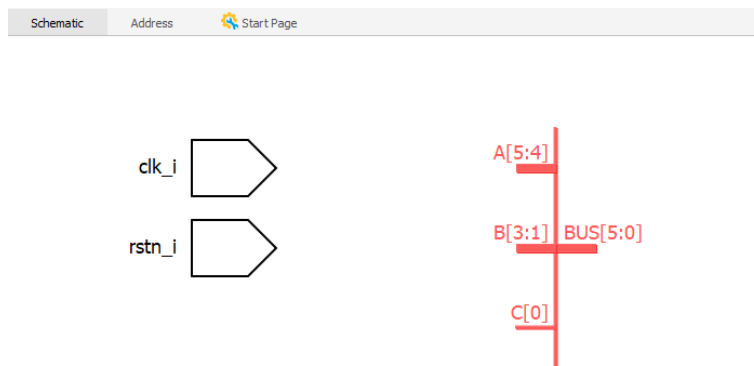

Figure 2.26. Schematic View Shows a Concat Module
- c. Click **OK**. The schematic block for the concat module in red appears in the Schematic view (Figure 2.26).